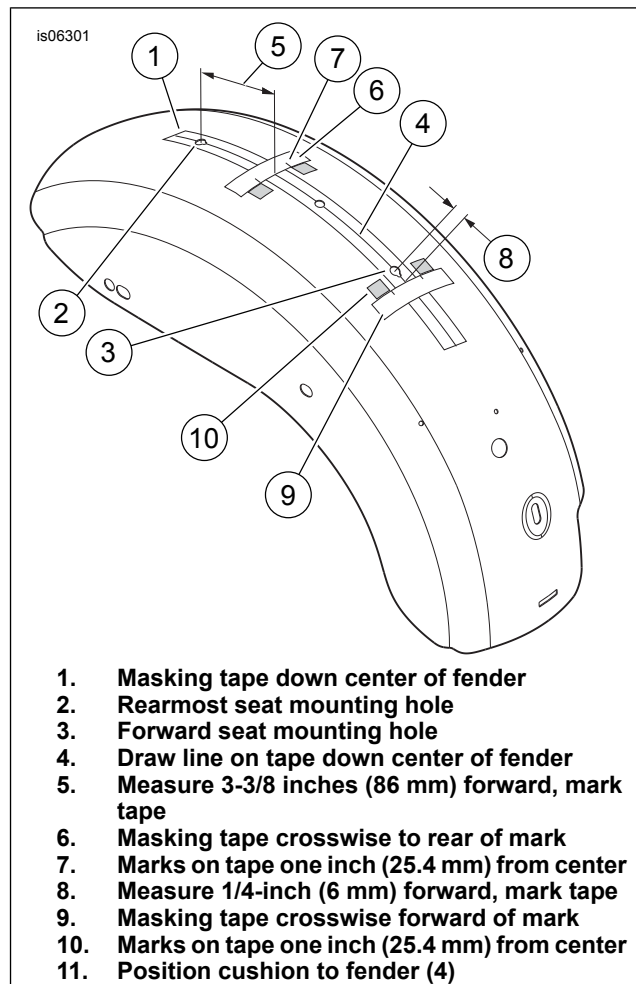

Figure 4. Rear Fender Pad Placement, Two-Up Seat
2. See Figure 4. Lay a strip of masking tape (1) down the center of the fender, starting about 25 mm (1 in) in back of the rearmost seat mounting hole (2) and ending about 75 mm (3 in) in front of the forward seat mounting hole (3).
3. Pierce a hole through the tape into the center of each seat mounting hole. Draw a line (4) on the tape, down the center of the fender, from end to end of the tape.